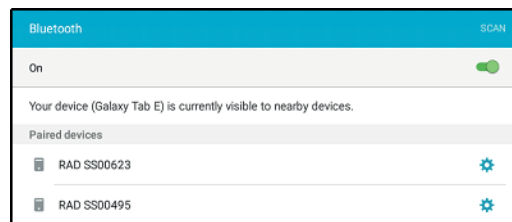

Figure 2-3: Bluetooth settings
1. Open “Settings” on the Android device (Figure 2-3).